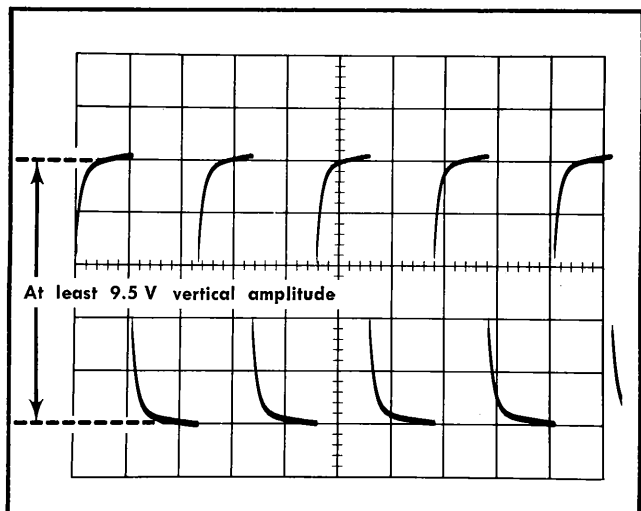

Fig. 5-17. Composite internal triggering signal amplitude waveform for step 19. Sweep rate — $50 \mu\text{s}/\text{div}$.
d. CHECK—Composite internal triggering signal amplitude. Set the Test Oscilloscope Time/Div to 50 μ s and check its display for at least 9.5 V amplitude, as illustrated in Fig. 5-17. (Check that the Test Oscilloscope Variable Gain is at its calibrated position before making the measurement.)